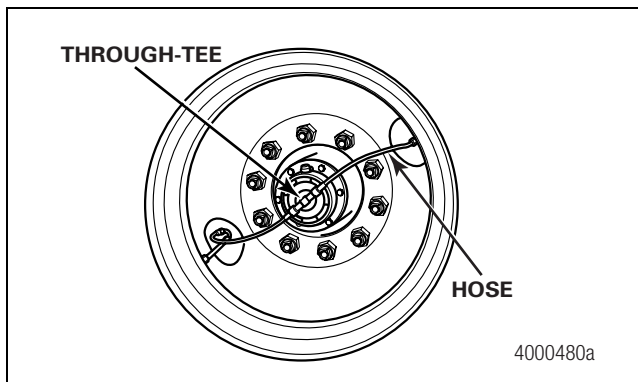

Figure 4.5
7. Check the wheel ends to verify that the tire inflation system hoses do not contact the wheels. Figure 4.5.